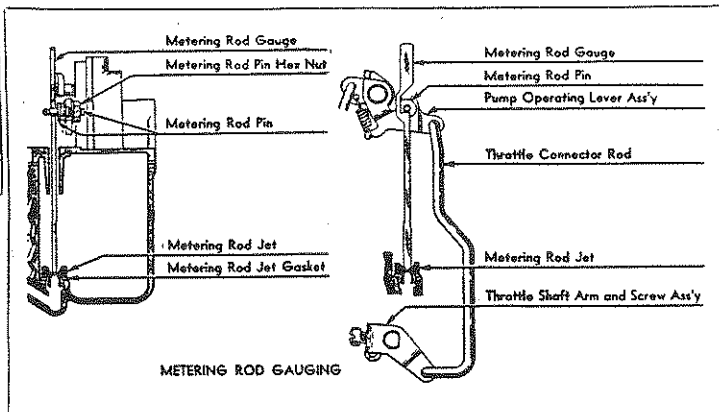

Fig. 5
47. **Metering Rod Adjustments:** (See Fig. 5.) Correct setting of metering rod is important and must be made after pump adjustment. Install metering pin and spring assembly, washer and nut loosely on pump operating lever. Insert gauge (tool T109-26) in place of metering rod, seating tapered end in metering rod jet. Hold gauge vertical to insure seating. With throttle valve seated,